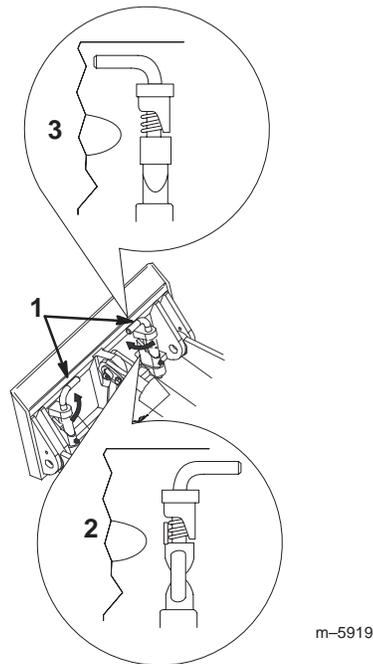

Figure 19
7. Engage the quick attach pins, ensuring that they are fully seated in the mount plate (Fig. 19).